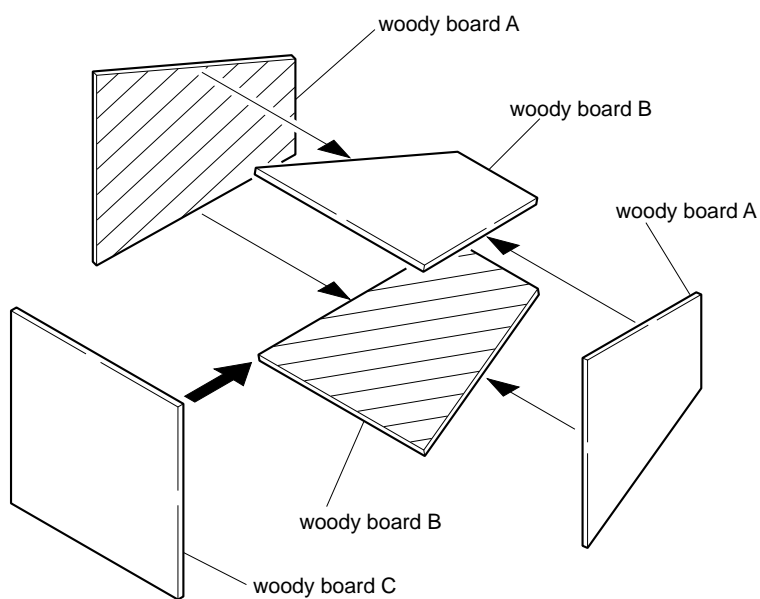

Fig. 5-1-10
- 4) Assemble so that the black sides and the background paper side of woody board A, B and C are internal. (Fig 5-1-10)